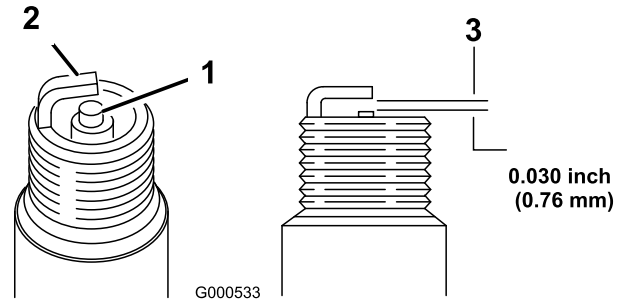

Figure 21
- Set the gap on the plug to 0.76 mm (0.030 inch) (Figure 21).